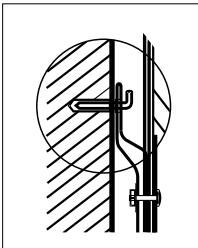

Fig. 7
- Then insert bolts into the drilled holes, and, turning bolt hooks clockwise, securely tighten bolt nuts, then hang the water heater on these anchor bolt hooks (see Fig. 7).